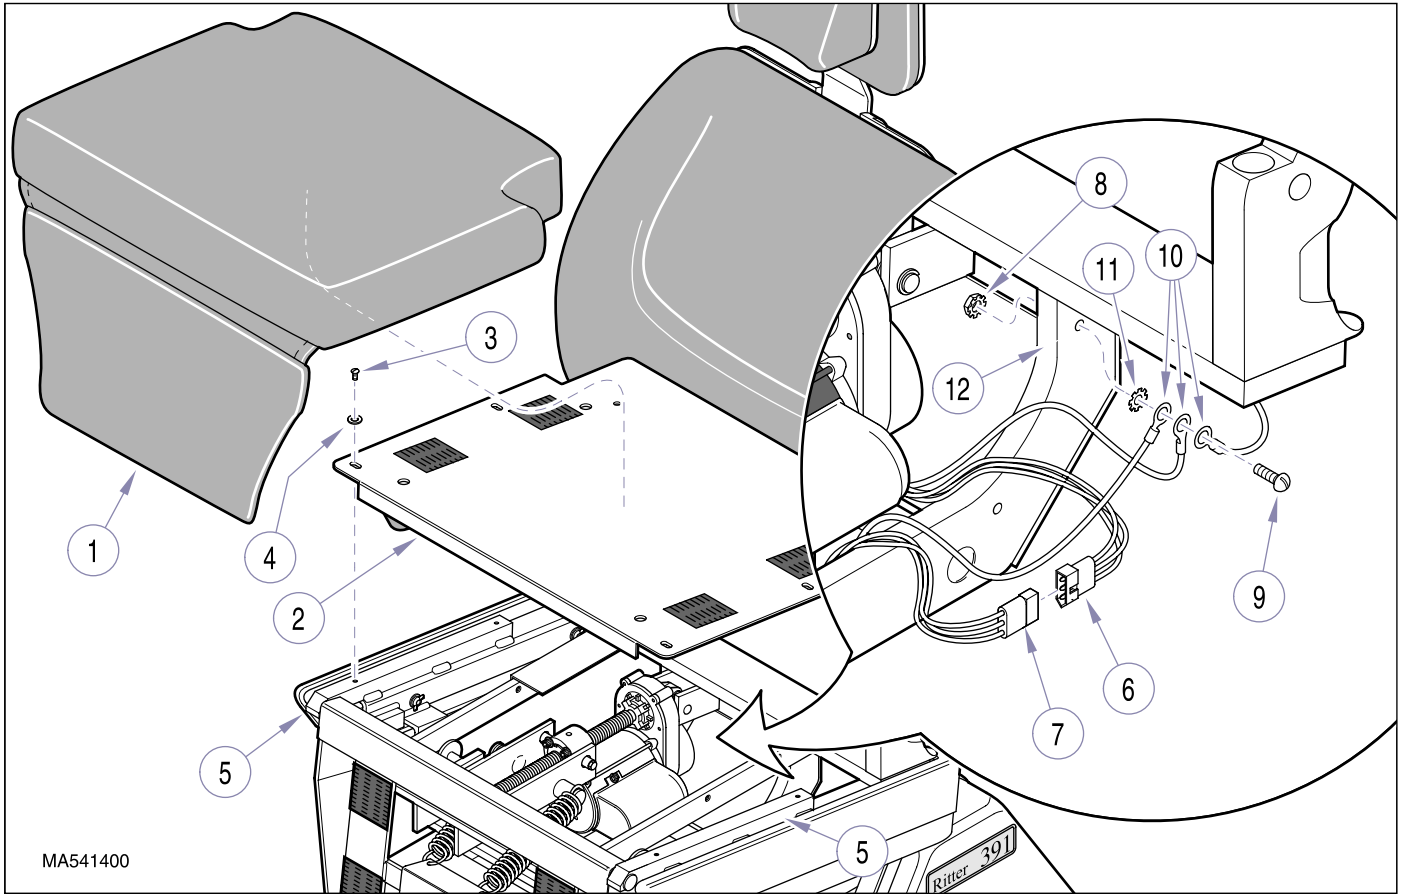
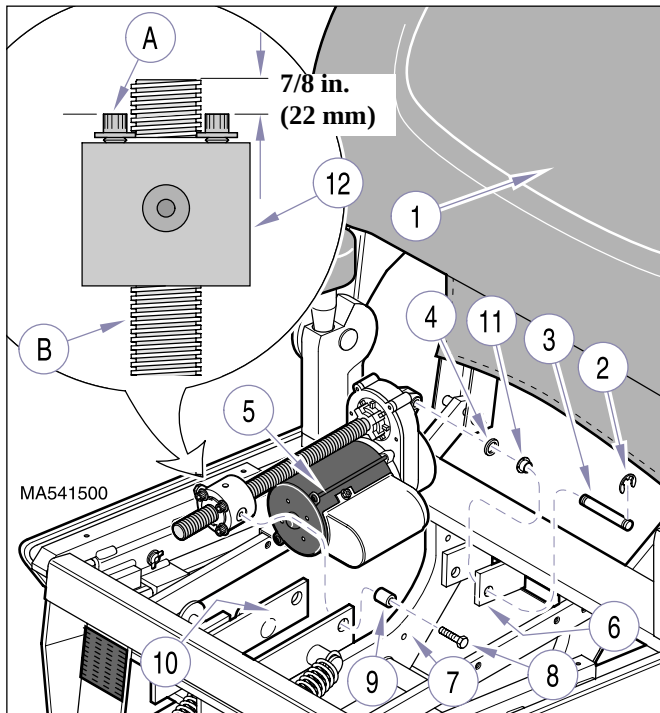

Figure 4-10. Back Motor Wire Harness Disconnection / Connection
Figure 4-11. Back Motor Removal / Installation
- (1) Unplug chair power cord from wall outlet receptacle.
- (2) Separate velcro of seat cushion (1, Figure 4-10) from velcro of seatrest plate (2) and remove seat cushion from chair.
- (3) Remove four screws (3), washers (4), and seatrest plate (2) from L.H. & R.H. support weldments (5).
- (4) Disconnect motor wire harness (6) from wire harness (7).
- (5) Remove locknut (8), screw (9), three ground wires (10) and lock washer (11) from platform weldment (12).
- (6) While supporting **the top** of back section (1, Figure 4-11) to prevent it from lowering, remove two retaining rings (2), top motor pin (3), washer (4), and separate back motor (5) from clevis (6).
- (7) Carefully lower the back section (1) down, making sure back section is lowered completely before releasing. Back motor (5) may catch on platform weldment (7), seemingly indicating it is completely lowered, when in fact it isn't; this is a dangerous situation.
- (8) Remove two screws (8), trunnion bushings (9), and back motor (5) from clevis (10).
- (9) If worn or broken, remove two bushings (11); one from each arm of clevis (6).
- (1) If removed, install two bushings (11, Figure 4-11); one in each arm of clevis (6).
- (2) Temporarily connect motor wire harness (6, Figure 4-10) to wire harness (7).
- (3) Plug chair power cord into wall outlet receptacle.
- (4) Run BACK DOWN function until back motor is stopped by motor's internal limit switch.
- (5) Unplug chair power cord from wall outlet receptacle.
- (6) Manually adjust trunnion block (12, Figure 4-11) until end of motor shaft (B) extends 7/8 in. (22 mm) past four screws (A) on trunnion block.
- (7) Position back motor (5) in chair; then secure trunnion block (12) in clevis (10) with two trunnion bushings (9) and screws (8).
- (8) Lift upward on back section (1) as necessary to align support bracket of back motor with clevis (6). Then secure back motor in place with washer (4), top motor pin (3), and two retaining rings (2).
- (9) If disconnected, connect motor wire harness (6, Figure 4-10) to wire harness (7).
- (10) Connect three ground wires (10) to platform weldment (12) with lockwasher (11), screw (9), and locknut (8).
- (11) Run the Back Up function all the way up while observing to make sure the external Back Up limit switch trips before the internal limit switch. If necessary, refer to Base Up limit switch adjustment, para 4.9.
- (12) Install seatrest plate (2) on L.H. & R.H. support weldments (5) and secure with four washers (4) and screws (3).
- (13) Install seat cushion (1) on seatrest plate (2), making sure to align velcro of both parts.